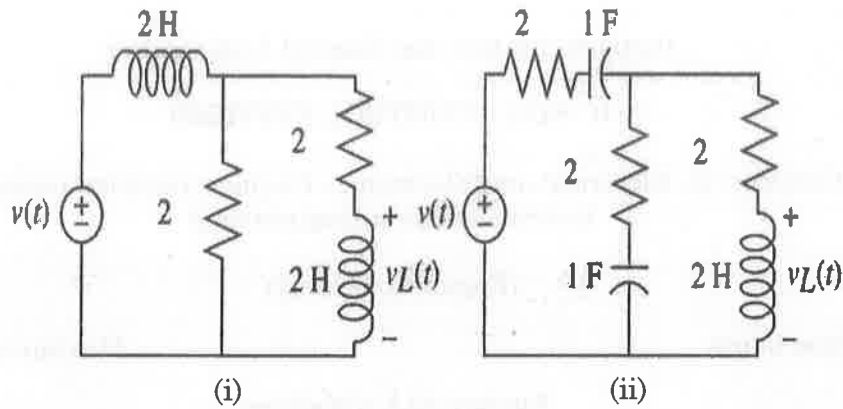

Fig. 11a
11. (a) Find the  $G(s) = V_L(s)/V(s)$  for the each network shown in Figure 11a.